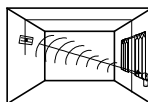

Fig. 3
For optimal performance the Wireless VITRON should be mounted as nearly opposite to the glass area to be protected, as shown in Fig 3.
- Opposite Wall –Mounted** (For optimal results, Wireless VITRON is centered opposite glass, see Fig. 3).